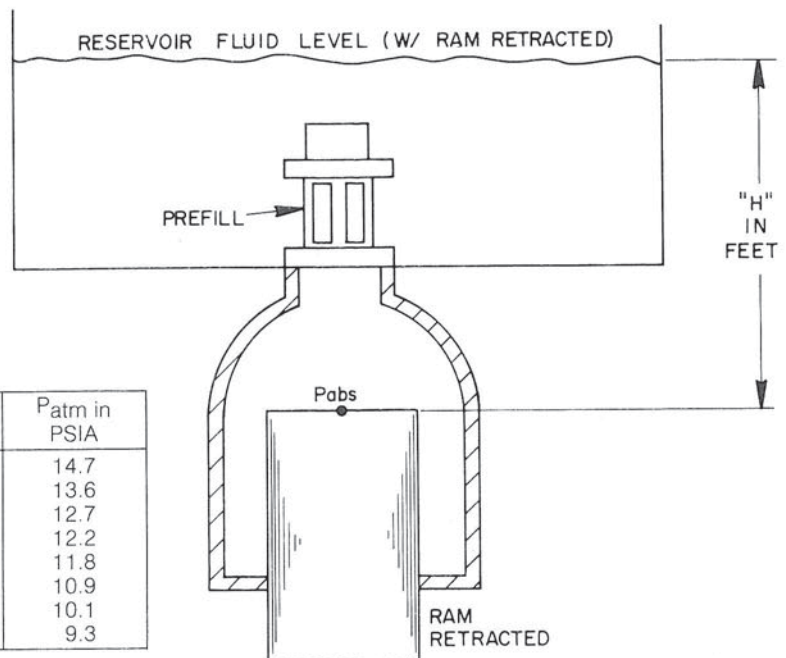

FIG. 18. Prefill installed in reservoir and directly connected to cylinder.
1. Refer to figures 18, or 19, or 20. Determine head "H" (in feet) between ram and level of fluid in reservoir.
See figures 18 or 19 or 20